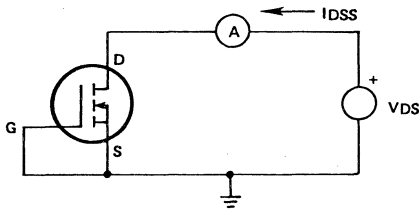

Figure 5. N-Channel I_{DSS} Measurement
C. I_{DSS} – The zero gate voltage drain current or offstate leakage current. It is determined by applying specified voltage from drain to source (with gate shorted to source) and measuring the resulting current. (See Figure 5 for the measurement circuit.)